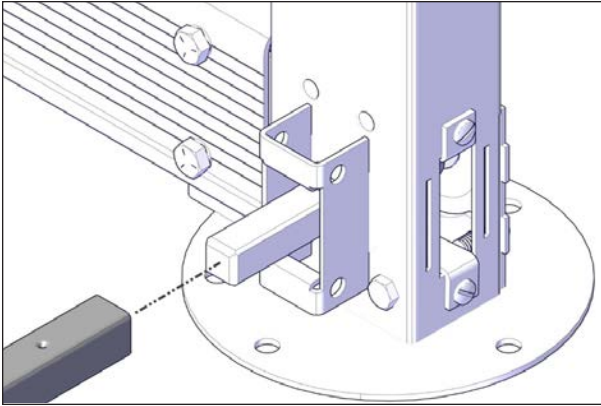

FIGURE 51: DRIVE SHAFT INSTALLATION
- Slide the drive shaft over the square shaft located at the bottom of the left motor-side jack assembly see Figure 51.